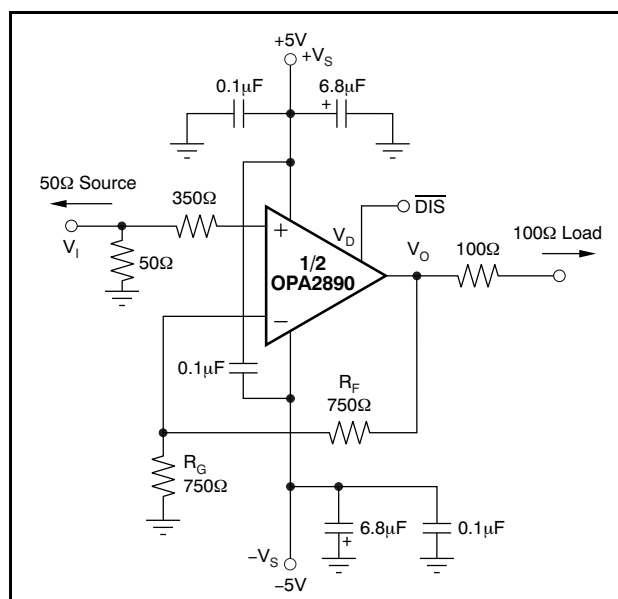
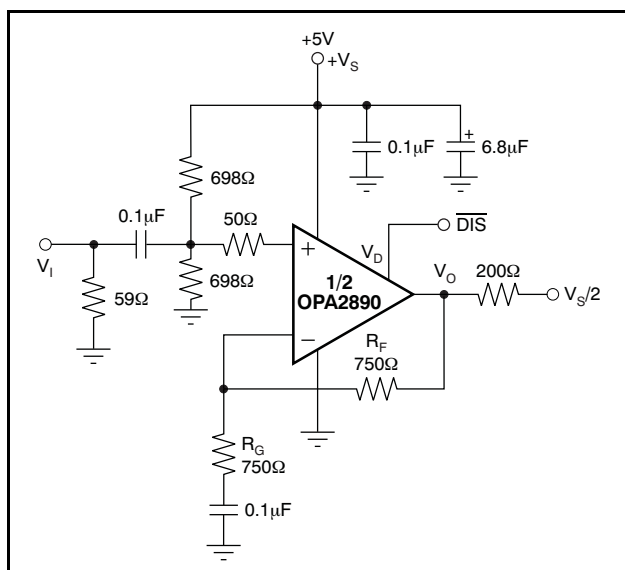
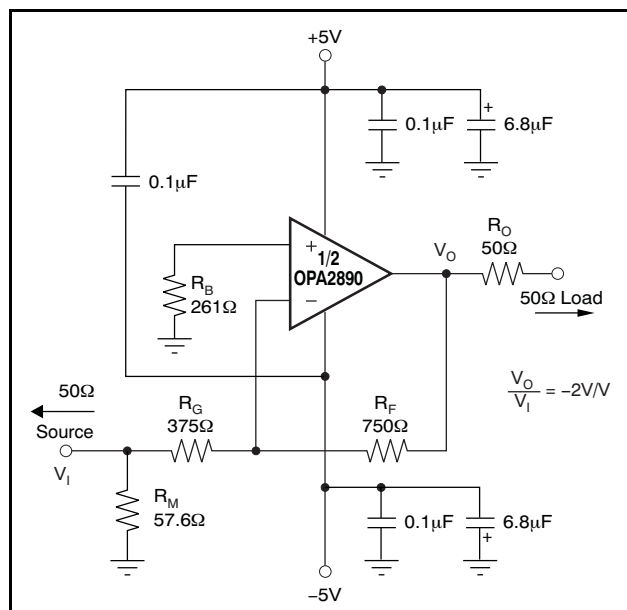

Figure 49. DC-Coupled, $G = +2V/V$, Bipolar Supply, Specification and Test Circuit
Figure 50. DC-Coupled, $G = +2V/V$, Single-Supply, Specification and Test Circuit
Figure 59. Gain of $-2V/V$ Example Circuit
At $T_A = +25^\circ\text{C}$, $G = +2V/V$, $R_F = 750\Omega$, and $R_L = 200\Omega$, unless otherwise noted. See Figure 49.
At $T_A = +25^\circ C$, $G = +2V/V$, $R_F = 750\Omega$, and $R_L = 200\Omega$, unless otherwise noted. See Figure 49.
Figure 49 shows the DC-coupled, gain of +2V/V, dual power-supply circuit configuration used as the basis of the ±5V Electrical Characteristics and Typical Characteristics. This illustration is for one channel; the other channel is connected similarly. For test purposes, the input impedance is set to 50Ω with a resistor to ground and the output impedance is set to 200Ω. Voltage swings reported in the Electrical Characteristics are taken directly at the input and output pins, while output powers (dBm) are at the matched 50Ω load. For the circuit of Figure 49, the total effective load is 200Ω || 1.5kΩ. The disable control line (MSOP-10 package only) is typically left open for normal amplifier operation. Two optional components are included in Figure 49. First, an additional resistor (350Ω) is included in series with the noninverting input. Combined with the 25Ω dc source resistance looking back towards the signal generator, this resistor gives an input bias current cancelling resistance that matches the 750Ω source resistance seen at the inverting input (see the DC Accuracy and Offset Control section). In addition to the usual power-supply decoupling capacitors to ground, a 0.1μF capacitor is also included between the two power-supply pins. In practical printed circuit board (PCB) layouts, this optional capacitor typically improves the 2nd-harmonic distortion performance by 3dB to 6dB.
Figure 50 illustrates the ac-coupled, gain of +2V/V, single-supply circuit configuration used as the basis of the +5V Electrical Characteristics and Typical Characteristics. Though not a rail-to-rail design, the OPA2890 requires minimal input and output voltage headroom compared to other very wideband voltage-feedback op amps. It delivers a 3V_{PP} output swing on a single +5V supply with greater than 80MHz bandwidth. The key requirement of broadband single-supply operation is to maintain input and output signal swings within the usable voltage ranges at both the input and the output. The circuit of Figure 50 establishes an input midpoint bias using a simple resistive divider from the +5V supply (two 698Ω resistors). Separate bias networks would be required at each input. The input signal is then ac-coupled into the midpoint voltage bias. The input voltage can swing to within 1.5V of either supply pin, giving a 2V_{PP} input signal range centered between the supply pins. The input impedance matching resistor (59Ω) used for testing is adjusted to give a 50Ω input load when the parallel combination of the biasing divider network is included.
A good rule of thumb is to target the parallel combination of R_F and R_G (see Figure 49) to be less than approximately 400Ω. The combined impedance $R_F \parallel R_G$ interacts with the inverting input capacitance, placing an additional pole in the feedback network and thus, a zero in the forward response. Assuming a 2pF total parasitic on the inverting node, holding $R_F \parallel R_G < 400\Omega$ keeps this pole above 160MHz. By itself, this constraint implies that the feedback resistor R_F can increase to several kΩ at high gains. This increase in resistor size is acceptable as long as the pole formed by R_F and any parasitic capacitance appearing in parallel is kept out of the frequency range of interest.
Voltage-feedback op amps exhibit decreasing closed-loop bandwidth as the signal gain increases. In theory, this relationship is described by the Gain Bandwidth Product (GBP) shown in the Electrical Characteristics. Ideally, dividing GBP by the noninverting signal gain (also called the Noise Gain, or NG) predicts the closed-loop bandwidth. In practice, this principle only holds true when the phase margin approaches 90°, as it does in high gain configurations. At low gains (increased feedback factors), most amplifiers exhibit a more complex response with lower phase margin. The OPA2890 is compensated to give a slightly peaked response in a noninverting gain of 2V/V (see Figure 49). This compensation results in a typical gain of +2V/V bandwidth of 100MHz, far exceeding that predicted by dividing the 60MHz GBP by 2. Increasing the gain causes the phase margin to approach 90° and the
The frequency response in a gain of +2V/V may be modified to achieve exceptional flatness simply by increasing the noise gain to 2.5V/V. One way to modify the response without affecting the +2V/V signal gain, is to add an 1.5kΩ resistor across the two inputs, as illustrated in the circuit of Figure 49. A similar technique may be used to reduce peaking in unity-gain (voltage follower) applications. For example, by using a 750Ω feedback resistor along with a 750Ω resistor across the two op amp inputs, the voltage follower response is similar to the gain of +2V/V response of Figure 50. Reducing the value of the resistor across the op amp inputs further limits the frequency response due to increased noise gain.
The OPA2890 is a general-purpose, wideband, voltage-feedback op amp; therefore, all of the familiar op amp application circuits are available to the designer. Inverting operation is one of the more common requirements and offers several performance benefits. See Figure 59 for a typical inverting configuration where the I/O impedances and signal gain from Figure 49 are retained in an inverting circuit configuration.
The second major consideration, touched on in the previous paragraph, is that the signal source impedance becomes part of the noise gain equation and influences the bandwidth. For the example in Figure 59, the R_M value combined in parallel with the external 50Ω source impedance yields an effective driving impedance of $50\Omega \parallel 57.6\Omega = 26.7\Omega$. This impedance is added in series with R_G for calculating the noise gain (NG). The resultant NG is 2.86V/V for Figure 59, as opposed to only 2V/V if R_M could be eliminated as discussed above. Therefore, the bandwidth is slightly lower for the gain of $-2V/V$ circuit of Figure 59 than for the gain of $+2V/V$ circuit of Figure 49.
signal reaches very high frequency or power levels, the 2nd harmonic dominates the distortion with a negligible 3rd harmonic component. Focusing then on the 2nd harmonic, increasing the load impedance improves distortion directly. Remember that the total load includes the feedback network; in the noninverting configuration (see Figure 49), this value is the sum of $R_F + R_G$, while in the inverting configuration it is only R_F . Also, providing an additional supply-decoupling capacitor (0.1µF) between the supply pins (for bipolar operation) improves the 2nd-order distortion slightly (3dB to 6dB). Operating differentially also lowers 2nd-harmonic distortion terms (see the plot on the front page).
Evaluating these two equations for the OPA2890 circuit and component values (see Figure 49) gives a total output spot noise voltage of 17.5nV/√Hz and a total equivalent input spot noise voltage of 8.7nV/√Hz. This result includes the noise added by the bias current cancellation resistor (350Ω) on the noninverting input. This total input-referred spot noise voltage is only slightly higher than the 8nV/√Hz specification for the op amp voltage noise alone. This result is the case as long as the impedances appearing at each op amp input are limited to the previously recommend maximum value of 400Ω. Keeping both ($R_F \parallel R_G$) and the noninverting input source impedance less than 400Ω satisfies both noise and frequency response flatness considerations. Because the resistor-induced noise is relatively negligible, additional capacitive decoupling across the bias current cancellation resistor (R_B) for the inverting op amp configuration of Figure 59 is not required.
The balanced input stage of a wideband voltage-feedback op amp allows good output dc accuracy in a wide variety of applications. The power-supply current trim for the OPA2890 gives even tighter control than comparable amplifiers. Although the high-speed input stage does require relatively high input bias current (typically 5µA out of each input terminal), the close matching between them may be used to reduce the output dc error caused by this current. The total output offset voltage may be considerably reduced by matching the dc source resistances appearing at the two inputs. This matching reduces the output dc error resulting from the input bias currents to the offset current times the feedback resistor. Evaluating the configuration of Figure 49, and using worst-case +25°C input offset voltage and current specifications, gives a worst-case output offset voltage equal to: